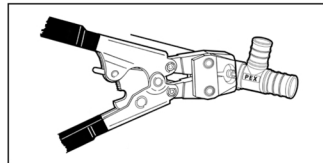

Fig. 4: Close clamp ear with tool
2. Close ear clamp with tool, tool will not release until clamp is fully closed. (Fig. 4)